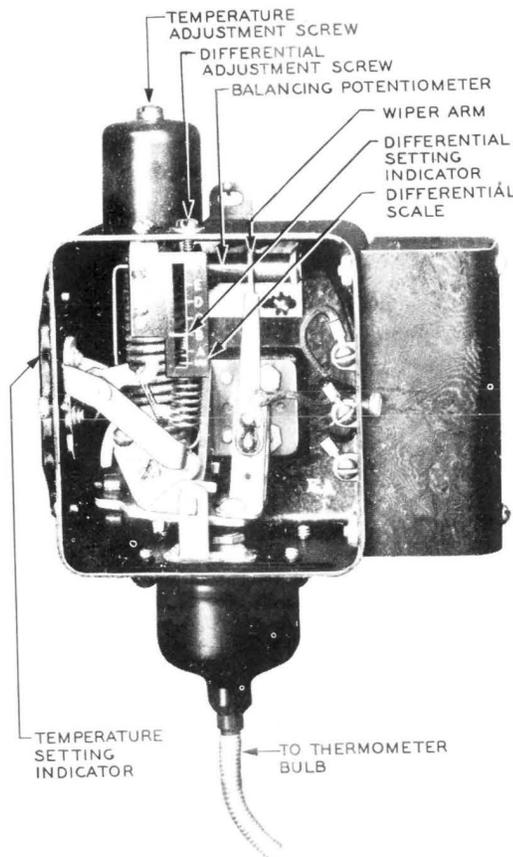

Fig. 6 - T915C-type Controller
(a) The wiper arm shall be at the right end of the active part of the balancing potentiometer (Fig. 6 shows this condition)
- (1) By means of the temperature adjustment screw, bring the temperature setting indicator to the specified value on its scale. See Fig. 6. Start the engine and, as the water temperature rises, observe the action of the wiper arm. Adjust the temperature setting indicator further to secure the required operation. As the temperature continues to rise, observe the wiper and adjust the differential setting indicator, by means of the differential adjusting screw, to bring the wiper to the left end of the potentiometer when the temperature reaches the upper specified value.